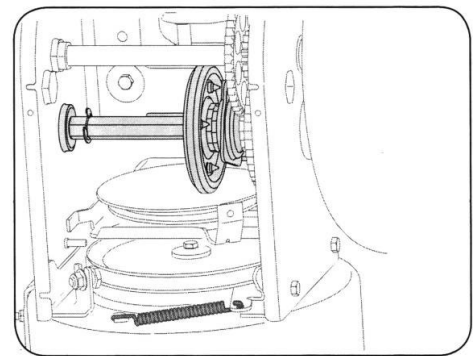

Fig. 11
- 2) Apply a thin layer of universal grease to the shaft. See Figure 11.